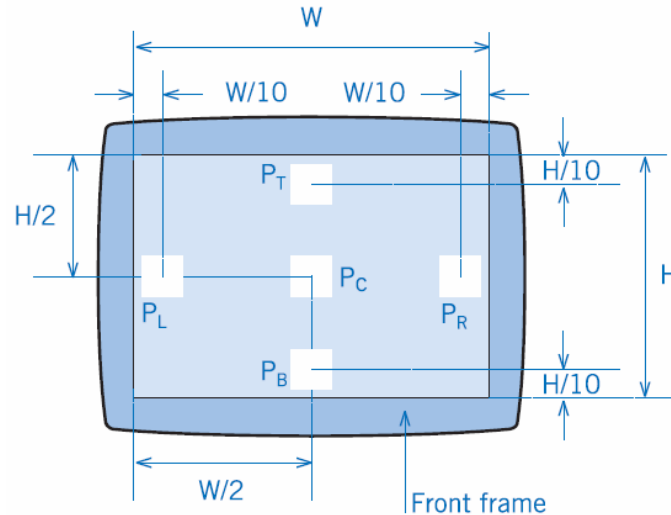

Figure1: Measurement positions for angular dependence luminance uniformity.
1. Refer to Fig.1&2, for FPDs in the horizontal direction, the mean value of the Lmax. to Lmin. ratios at ± 30 degrees shall be ≤ 1.7 .
2. Refer to Fig.1&3, for FPDs in the vertical direction, the value of Lmax. to Lmin. ratio at $+15$ degree shall be ≤ 1.7 and the largest value of Lmax. to Lmin. ratio at ± 15 degree shall be
Refer to Fig.1&2, center point(P_c) Luminance of White(L_w) and Black(L_b) is measured at ± 30 degrees.